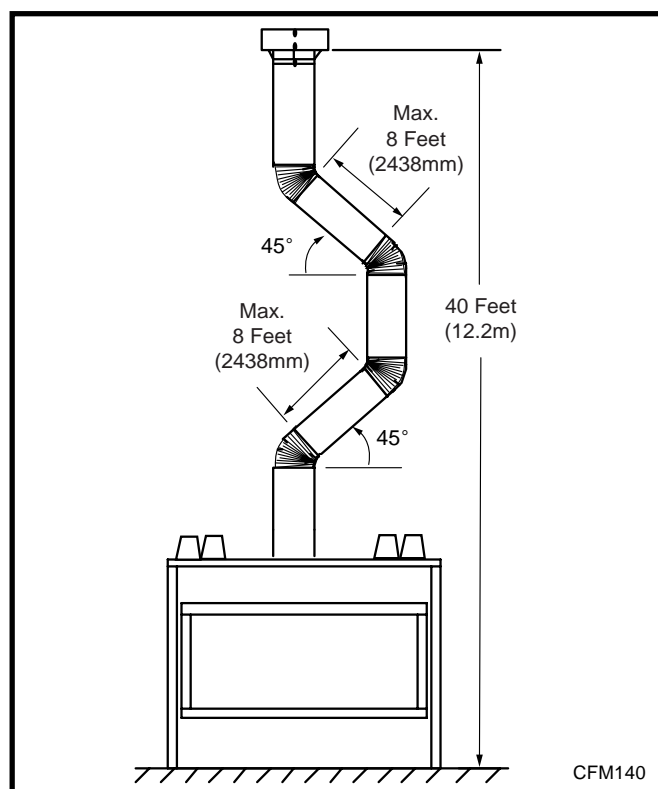

Fig. 30 Typical straight-up installation.
- d. Two sets of 45° elbows offsets within these vertical installations. From 0 to a maximum of 8' (2438 mm) of vent pipe can be used between elbows. (Fig. 30)